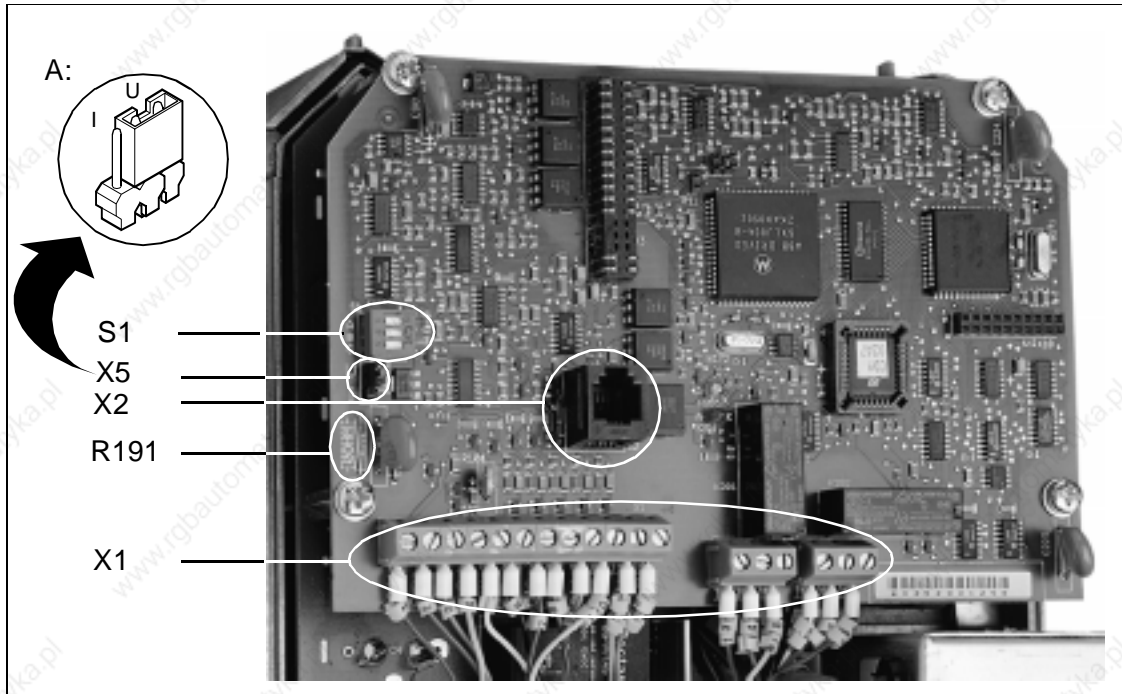

Figure 4-1 Control Card
Figure 4-1 shows the location of the control terminal block, X1 and the configuration switches and jumpers on the ACS 300 control card.
- Notes for Figure 4-1**
- X5 = Jumper for selecting analog input signal. See detail A.  $I$  = current 0(4) to 20 mA and  $U$  = voltage 0(2) to 10 V.
1) Refer to Figure 4-1 "Control Card" on page 22 for voltage/current reference selection.
The analog input, AI, is used to set the speed reference using an external potentiometer or analog signal. By setting jumper X5, the input can be configured to accept either a voltage signal of 0(2) to 10 V or a current signal of 0(4) to 20 mA. Refer to Figure 4-1. The analog input can scaled and configured for joystick operation using the REF OFFSET parameter as described on page 55. The AI FAULT parameter described on page 64 is used to enable and disable signal loss protection. When the PI controller is activated, the analog input is used only as the actual value (process feedback) input. Refer to the PI GAIN parameter on page 68.